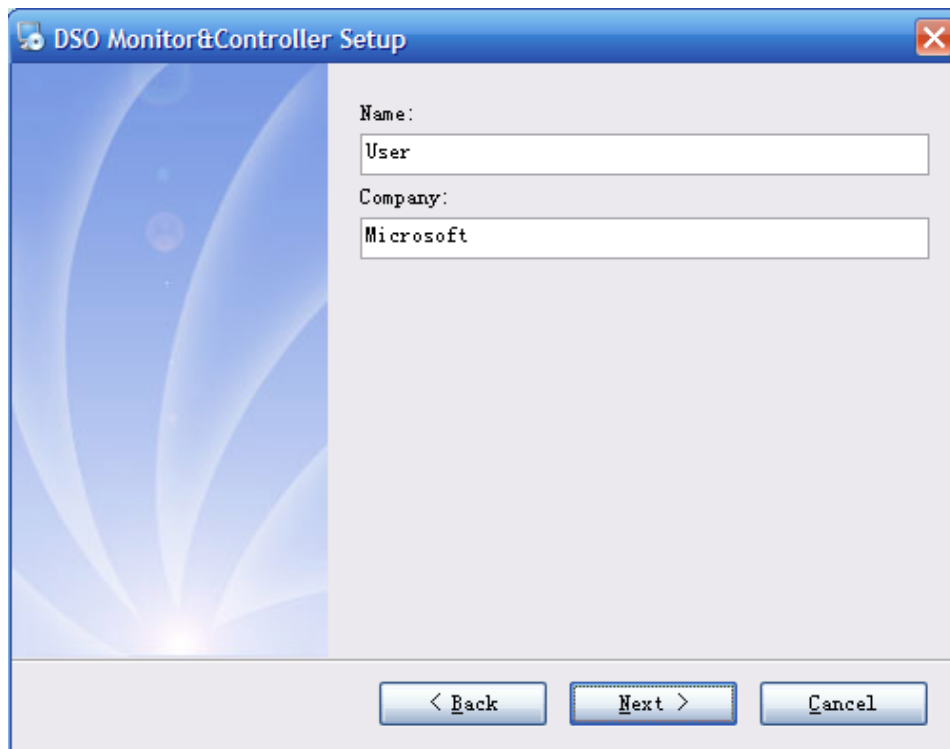
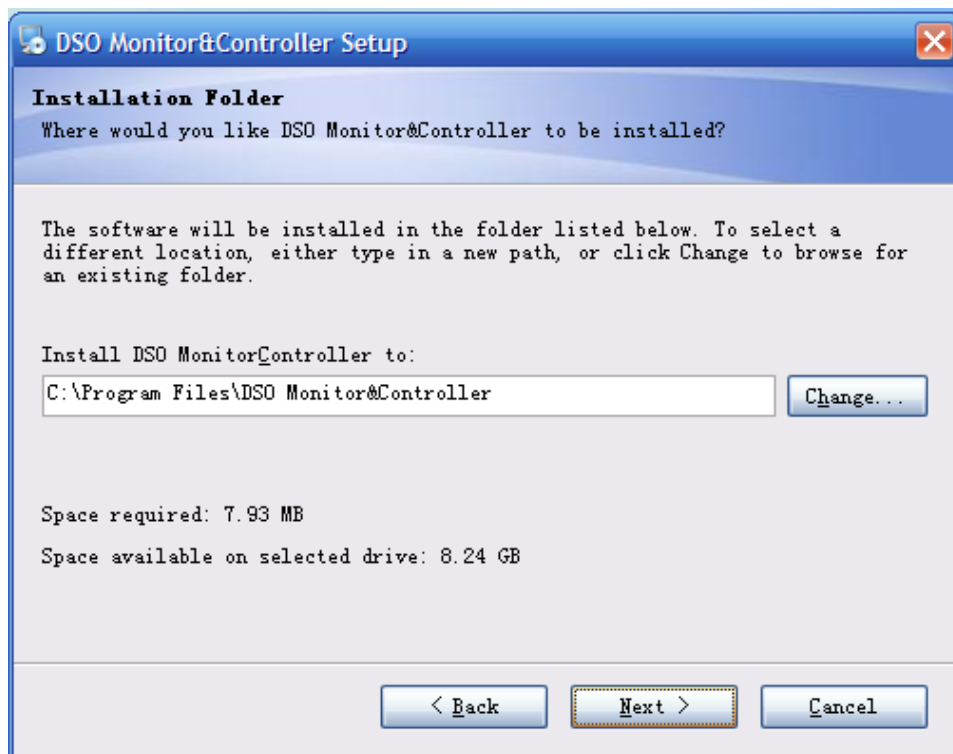

Figure 1-3
Figure 1-4
Step three : Read the prompt in Figure 1-2 then click the **NEXT (N)** button to enter the next step, as shown in Figure 1-3.
Step four : In Figure 1-3, enter your user name and company name, then click the **NEXT (N)** button to enter the next step, as shown in Figure 1-4
Step five : In Figure 1-4, click the **CHANGE (H).....** button to specify the installation